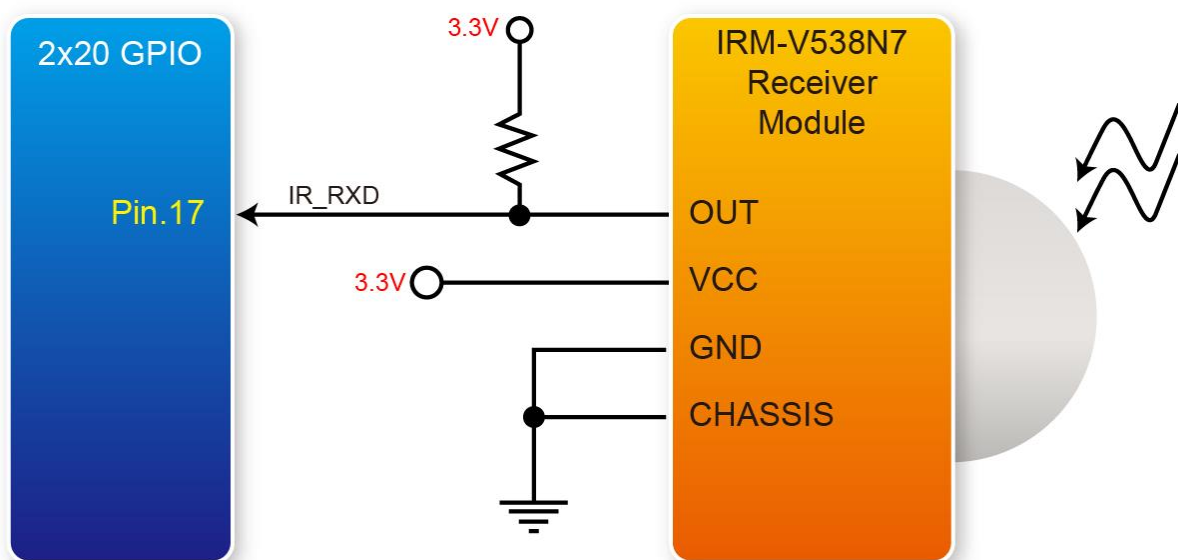

Figure 3-8 Connection between the GPIO and IR receiver module
**Figure 3-8** shows the related schematic of the IR receiver, and the pin assignments of the associated interface connected to DE0-Nnao GPIO0 are listed in **Table 3-6**.